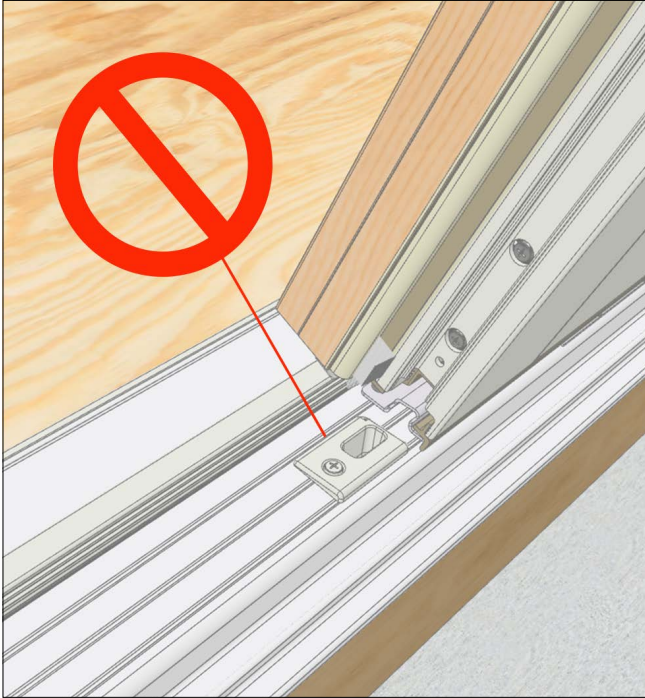

Figure 27
1. Ensure sill strike is not installed into the sill prior to installing the stationary panel to avoid catching stationary panels retainer bracket on the strike. See Figure 27.